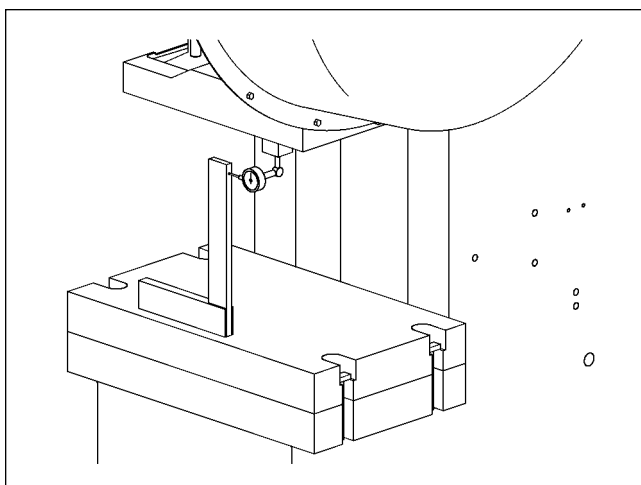

Figure 4F. Checking slide right-to-left vertical angularity.
12. Reposition machinists square so that its base leg is parallel to the front edge of the bed (or bolster). Reposition the dial indicator on the slide so that its spindle is perpendicular to, and resting against, the flat inner surface of the square. (See Figure 4F.)